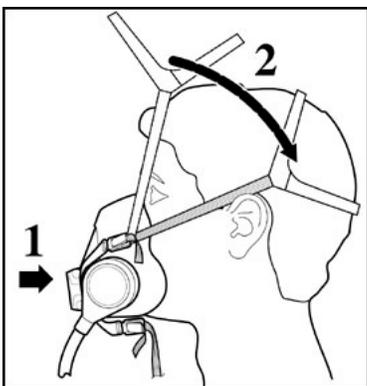

Fig. 20
2. Place the respirator over the mouth and nose. (Fig. 20)
3. Pull the head harness over the crown of the head. (Fig. 20)